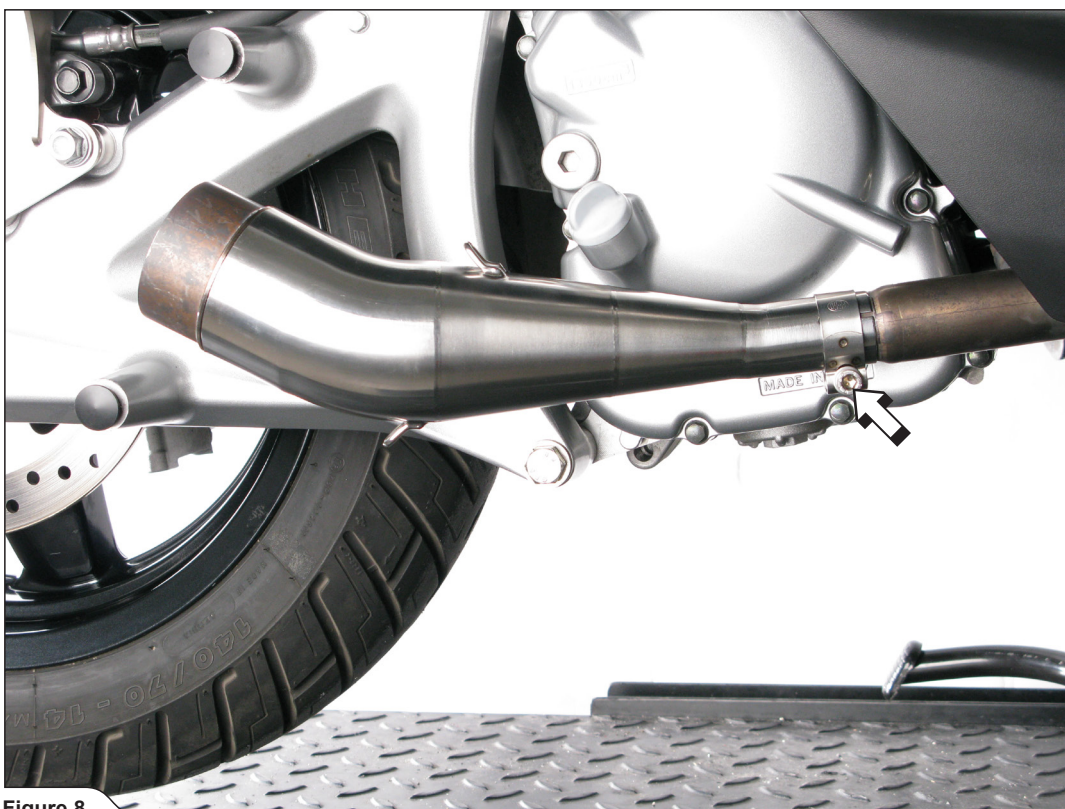

Figure 8
5. Correctly position and slide the Akrapovič link pipe onto the stock header and hand tighten the clamp (Figure 8).